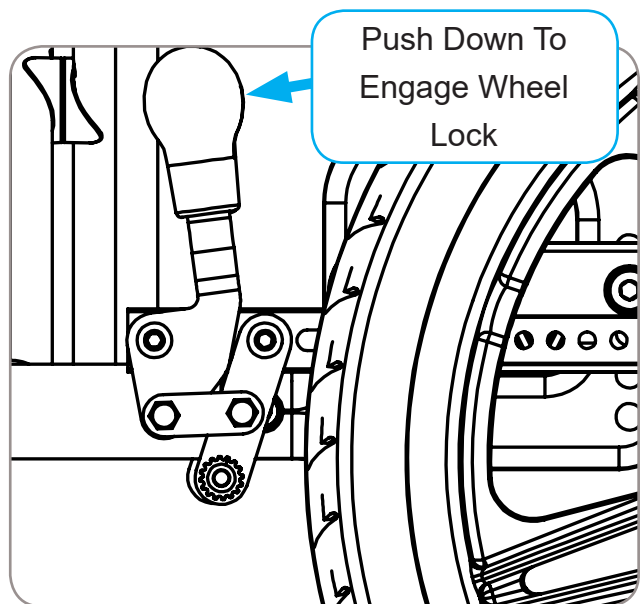

Figure 3
1. To engage wheel locks, push handle down. Reference Figure 3.